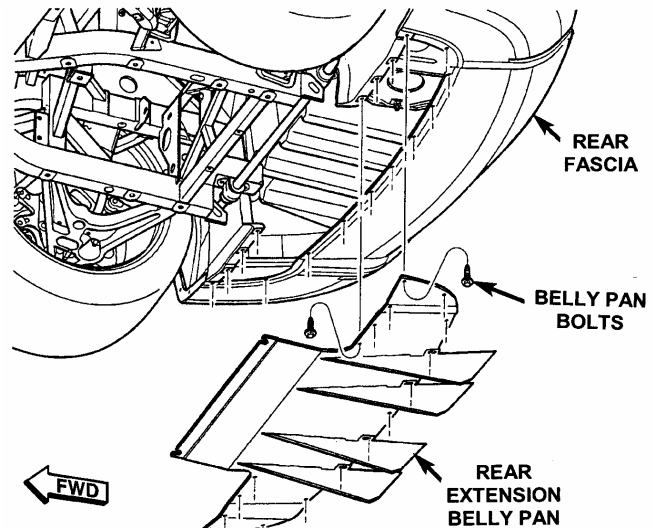

Figure 1
2. Remove the 21 rear extension belly pan-to-rear fascia bolts and the four (4) rear extension belly pan-to-frame bolts and then remove the rear extension belly pan (Figure 1).
8. Install the rear extension belly pan (Figure 1). Tighten the four (4) rear extension belly pan-to-frame bolts to 250 in-lbs (28 N·m). Tighten the 21 rear extension belly pan-to-rear fascia bolts to 35 in-lbs (4 N·m).